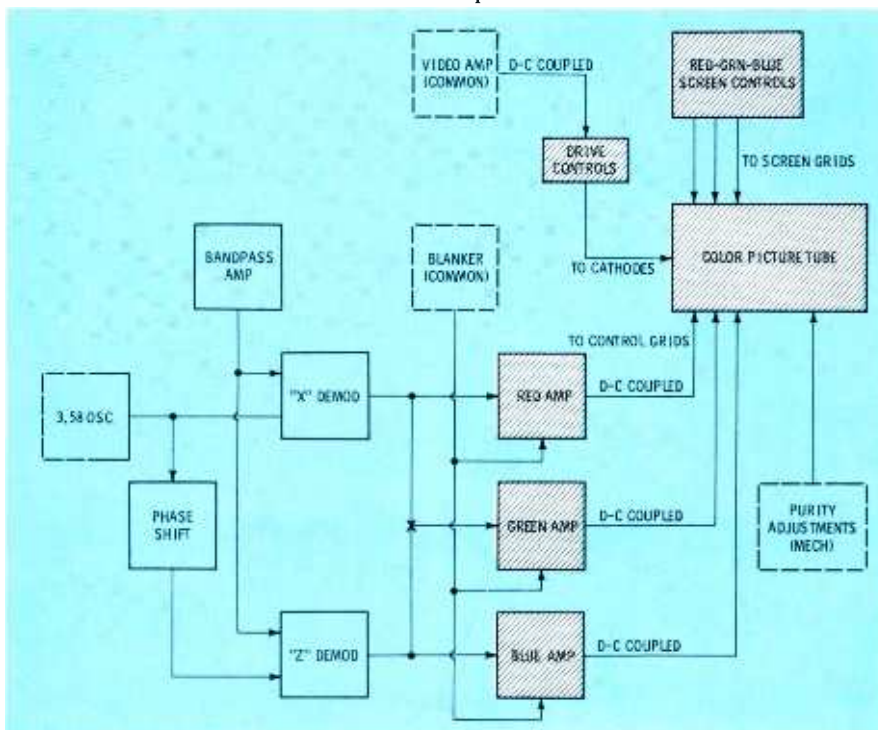

Fig. 1. Block diagram of stages that can cause hue defects.
The output of the differentiator circuit is combined with a comparison voltage pulse from the horizontal section and applied to the horizontal phase detector. The comparison voltage should be checked with an oscilloscope, first to make sure there is a pulse, and secondly for shape and amplitude. Phase detector diodes such as used in the circuit illustrated in Fig. 1 must be matched; unmatched diodes will conduct unequally on equal drive signals and deliver an erroneous correction voltage to the horizontal oscillator. Diodes can be checked using an ohmmeter (front-to-back ratio) to determine closeness of the match. It is a good idea to check replacement dual diodes for front-to-back ratios, as rough handling can cause a shift or change in resistance.
The block diagram in Fig. 1 illustrates the stages that can cause both types of hue problems. The shaded blocks show those circuits associated directly with the picture tube. Failure in these circuits normally causes a shift on the screen from white to
trol circuits. Generally, trouble develops in one of the four shaded circuit areas in Fig. 1: (1) The cathode circuits, including any drive controls; (2) The control grid circuits, including color amplifier stages; (3) Screen grid circuits and controls; (4) The picture tube itself.
The stages shown with dotted lines in Fig. 1—video amplifier, blanker, and purity adjustments—can affect picture tube conduction or the color of the raster. However, a defect in these stages normally causes an operational change in all three guns simultaneously. Notice the 3.58-MHz oscillator is solid and dotted. In some instruments, failure of the oscillator shifts demodulator operation to a great degree. The end result, via the color difference amplifiers, causes a predominant hue on the screen. An inoperative oscillator, for example, produces a no-color symptom.